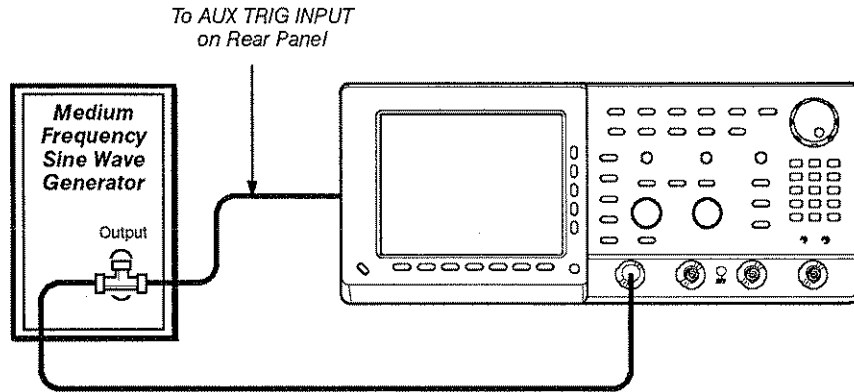

Figure A-19: Initial Test Hookup – TDS 540 Only
- TDS 540 only: Connect the signal output of a medium-frequency sine wave generator to a BNC T connector. Connect one output of the T connector to **CH 1** through a 50 Ω precision coaxial cable; connect the other output of the T connector to the **AUX TRIG INPUT** at the rear panel. See Figure A-19.